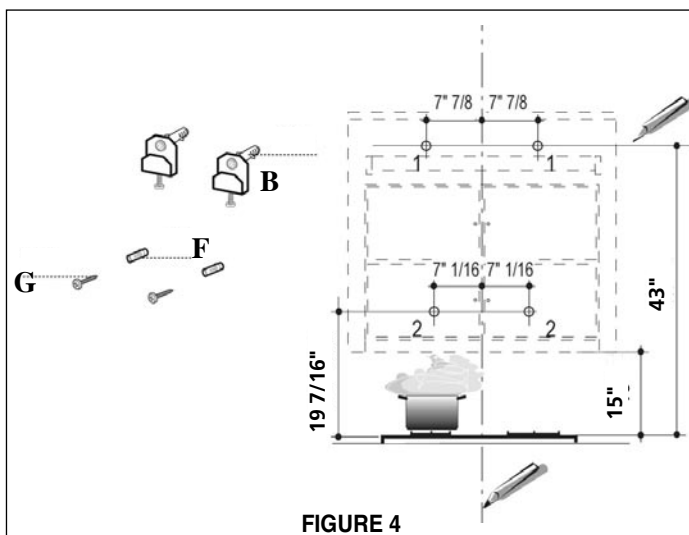

FIGURE 4
3. Draw a horizontal line at 43" above the cooktop (as indicated in FIGURE 4). Mark two points (1) (in FIGURE 4) on the horizontal line, 7 7/8" away from the center line on each side. Make sure both marks are level.
4. Mark two points (2) (in FIGURE 4) which are 19 7/16" above the cooktop, and are 7 1/16" on either side of the center line. Make sure both marks are level.
5. In holes (1) (in FIGURE 4) attach the two mounting brackets (B) to the wall with 2 mounting screws.
6. In holes (2) (in FIGURE 4) put one safety screw (G) in each hole, do not tighten the screws all the way.
5. Tighten the safety screws (Hole 2, in FIGURE 4)